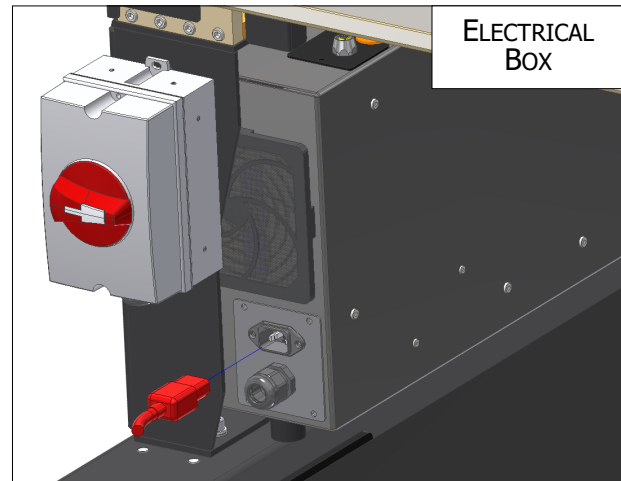

Figure 2. Electrical Box.
3. Insert Female End of Power Cord into the Power Entry Module on back of Electrical Box. The box is in the Frame Assembly. Figure 2.